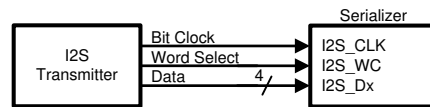
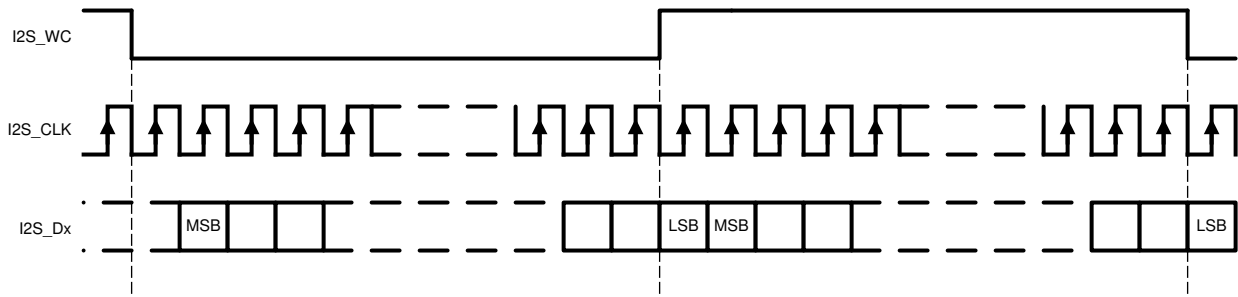

Figure 21. I²S Connection Diagram
Figure 22. I²S Frame Timing Diagram
The DS90UB947N-Q1 serializer features six I²S input pins that, when paired with a compatible deserializer, supports 7.1 High-Definition (HD) Surround Sound audio applications. The bit clock (I2S_CLK) supports frequencies between 1 MHz and the lesser of CLK/2 or 13 MHz. Four I²S data inputs transport two channels of I²S-formatted digital audio each, with each channel delineated by the word select (I2S_WC) input. Refer to Figure 21 and Figure 22 for I²S connection diagram and timing information.